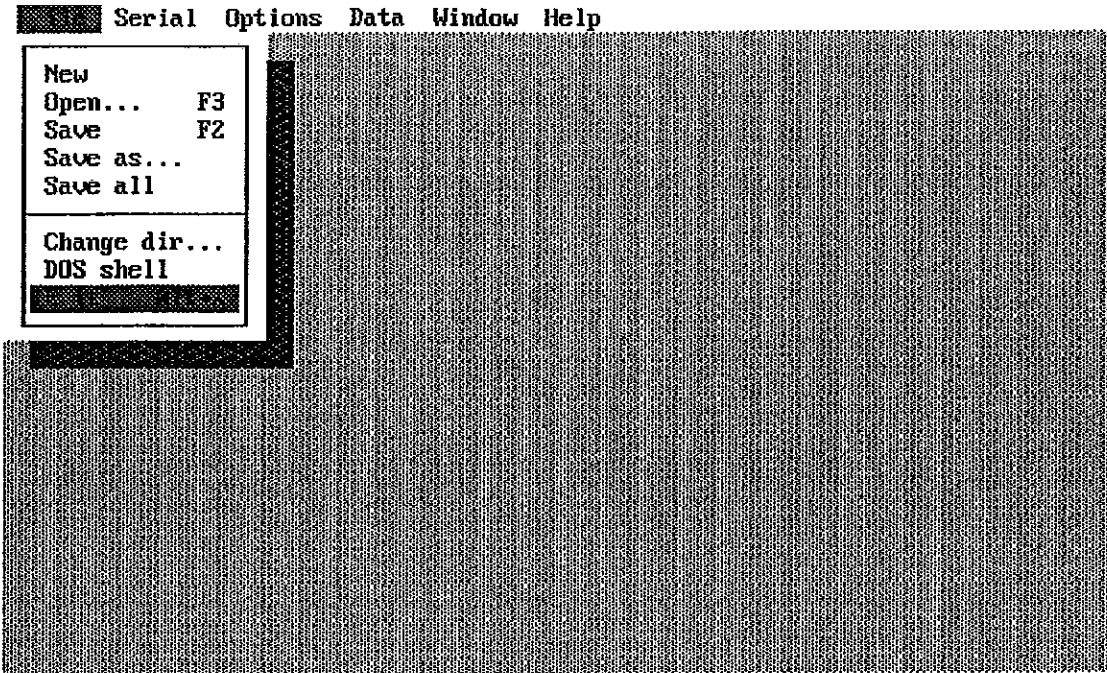

Figure 3-29. Computer Diagnostics Exit Screen
5. To exit the program entirely, move the pointing device to the FILE menu and select it (ALT-F). The select EXIT (X). See Figure 3-29.